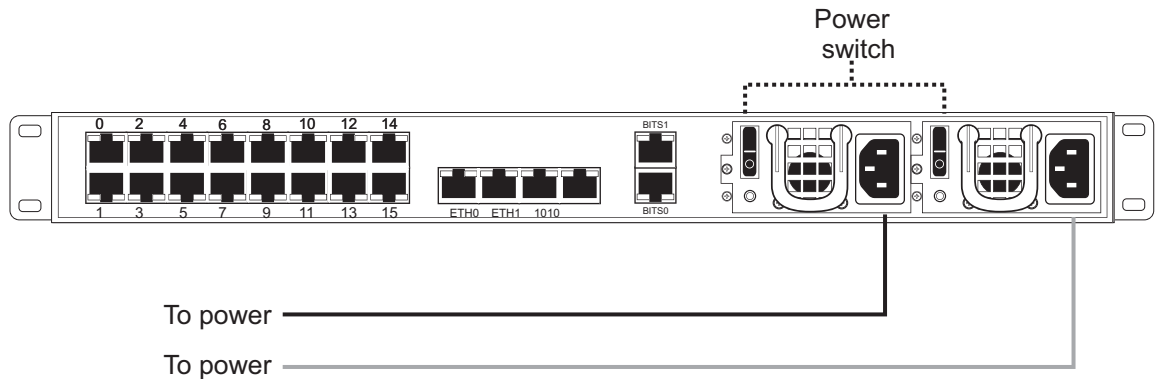

Figure 5.4 7800-TMS AC Power Connections
1. Connect the first power connector of each unit to the first power source. See Figure 5.4.